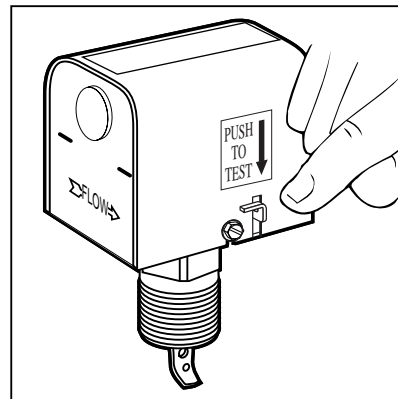

Figure 2
- e) If system operation is correct, turn on system fluid flow and push the manual test lever down as shown in figure 2. Observe the dependent device changing state.